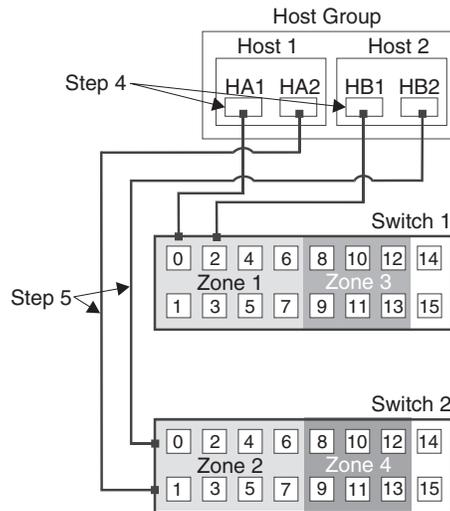

Figure 19. Host bus adapter connections to Fibre Channel switches
4. Connect the primary host bus adapter (Hx1) for each local host to an available port in Zone 1 of Switch 1 (Figure 19 on page 28).
5. Connect the secondary host bus adapter (Hx2) for each host at this site to an available port in Zone 2 of Switch 2 (Figure 19).